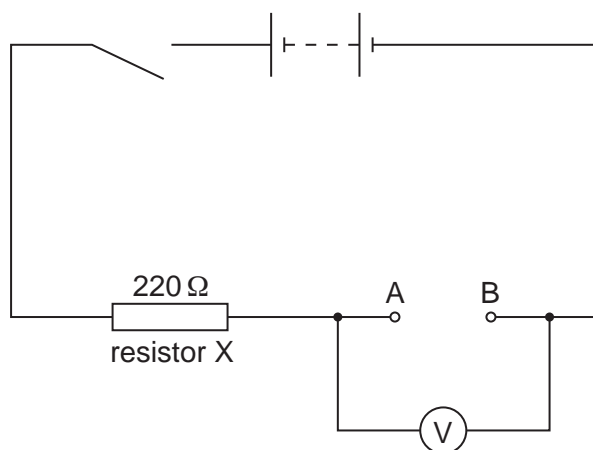

Fig. 4.1
Connecting leads to enable the Supervisor to set up the circuit shown in Fig. 4.1.
4. In the circuit shown in Fig. 4.1, the ends of the connecting leads should be clearly labelled A and B.
5. At the changeover, the Supervisor should check that the circuit is still set up as shown in Fig. 4.1. The switch should be open and the labels A and B should still be in place.